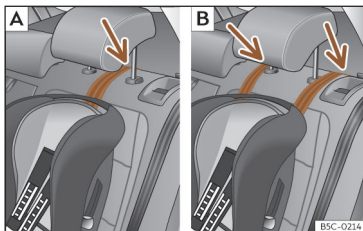

Fig. 39 Rear seats: adjustment and assembly according to the Top Tether belt.
- *Rear seats:* position the belt under the head restraint (according to the instructions of the seat itself, lift or remove the headrest if necessary) >>> **Fig. 39**.